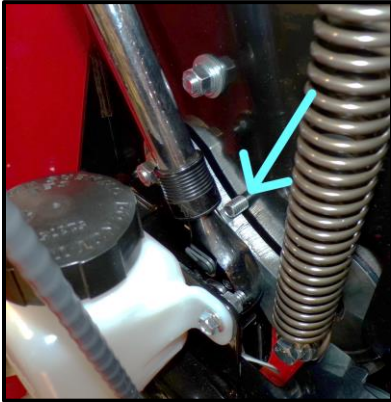

Figure 30 Breaker Bar on Tensioner Arm
21. Insert the square drive of the ½" drive breaker bar into the square opening of the tensioner arm, as shown in [Figure 30].
25. Fully insert one of the bolts removed in Step 19 into the pulley plate as seen in [Figure 30].